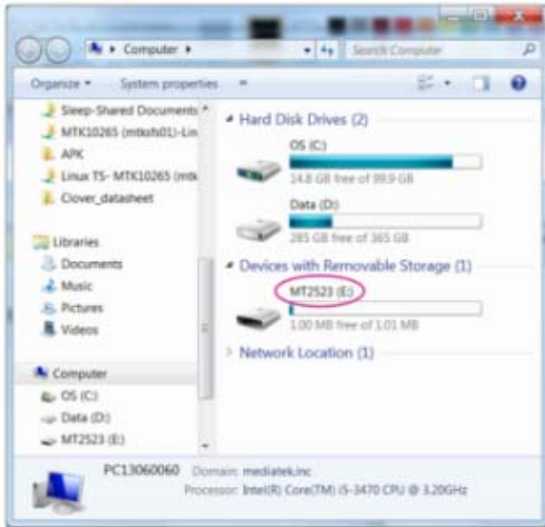

Figure 4. LinkIt 2523 module connected as removable disk storage
- 2) Navigate to **Computer** on your PC to check if a new mass storage named **MT2523** is available under **Removable Disk**, as shown in Figure 4.